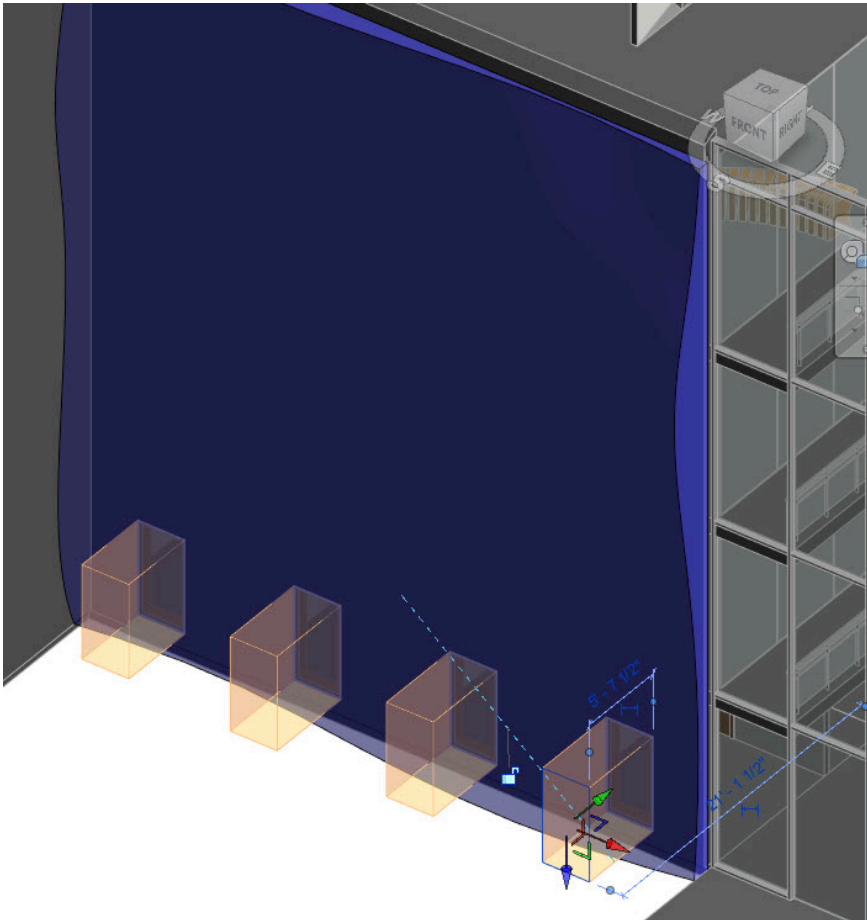

Figure 7.18 Void extrusion shown cutting through the mass solid
20. Use the green gumball arrow and pull it towards the exterior of the building to cut through the façade. See Figure 7.18